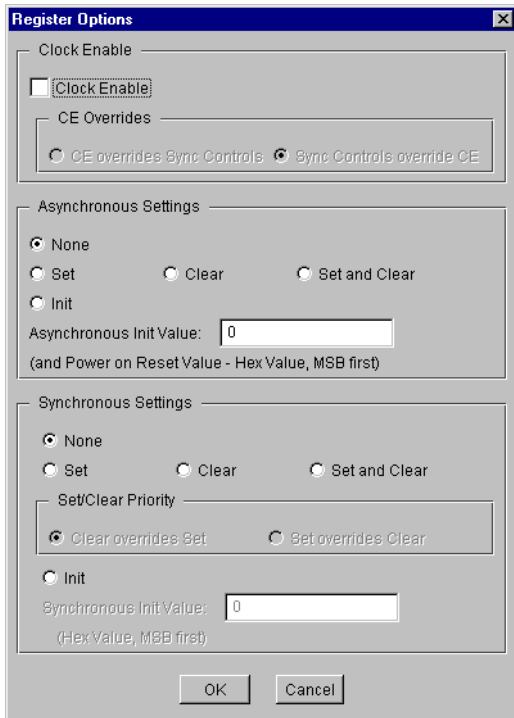

Figure 2: FD Register Options Parameterization Screen
- **Register Options:** Clicking on this button brings up the Register Options parameterization screen (see Figure 2).
The Register Options parameterization screen for this module is shown in Figure 2. The parameters are as follows: